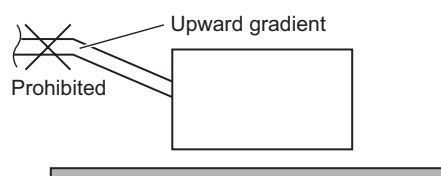

Fig. 2-98
- Do not install the pipe with an upward gradient from the connection port. This will cause the drain water to flow backward and leak when the unit is not operating. (Fig. 2-98)